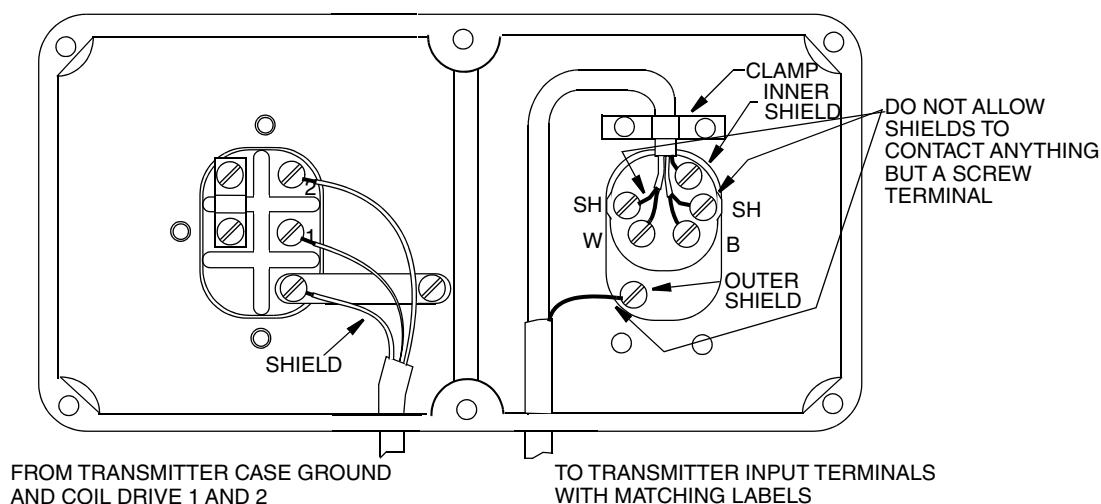

Figure 15. Wiring of 2800 Series Flowtubes (Foxboro Multiconductor Signal Cable)
(a) Flowtube terminals are shown in Figures 15 and 16.
4. Connect the signal wires to the flowtube output terminals as shown in Figures 15 and 16.
5. In the flowtube, clamp the signal cable over its inner jacket with the cable clamp as shown in Figures 15 and 16.